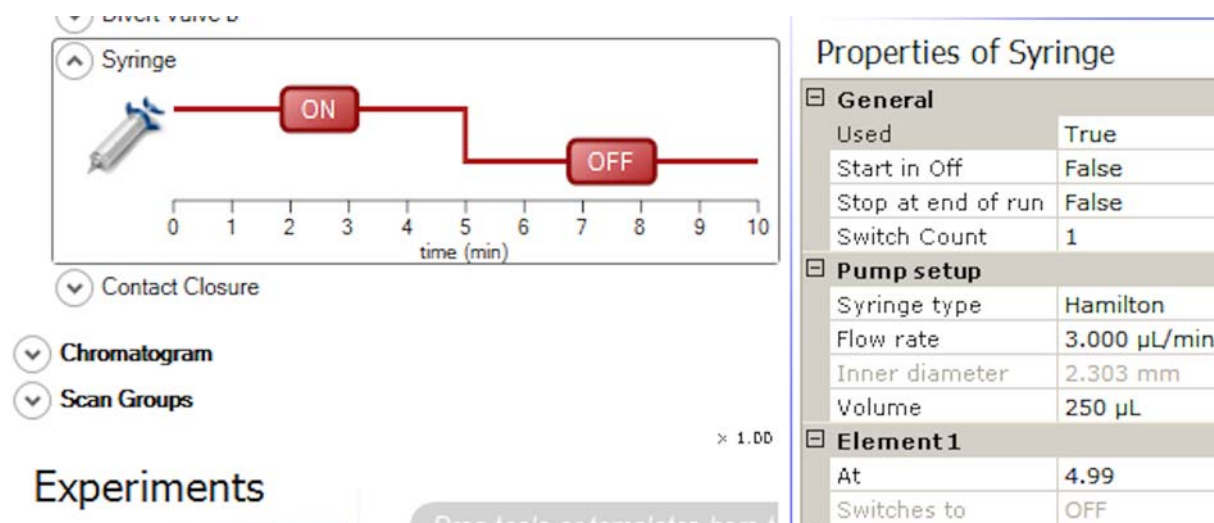

Figure 3-10. Syringe Pump pane
The Syringe item shows a graphic representation of the activities of the optional syringe pump during the active acquisition. See Figure 3-10.
- Right-click in the pane to display the shortcut menu. Choose **Activate**. The gray color  changes to the red color . See Figure 3-10.
A step in the line of the graphic representation indicates the new switch point. See Figure 3-10.